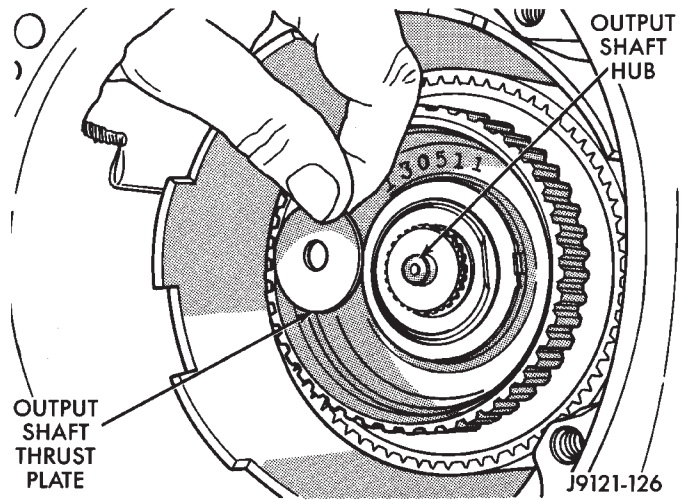

Fig. 146 Installing Output Shaft Thrust Plate
(1) Install output shaft thrust plate on shaft hub (Fig. 146). Use petroleum jelly to hold thrust plate in place.